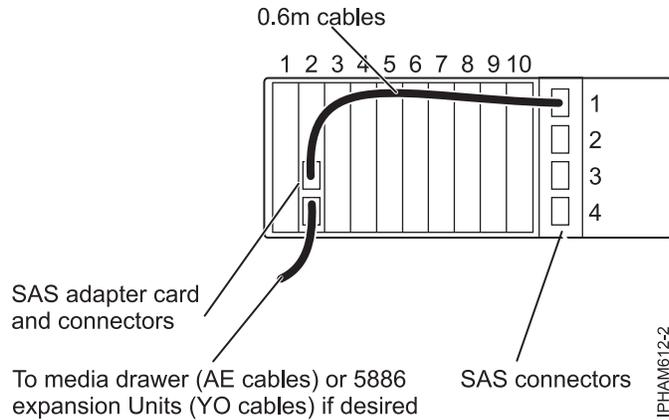

Figure 40. Physical cabling example: One hard disk drive partition with 18 disks, a single SAS adapter, hard disk drive partitions switch position 1
<p>1 hard disk drive partition with 18 disks and a single SAS adapter.</p>	<p>For related physical cabling, see Figure 40 on page 71.</p> <p>Operating system: AIX or Linux</p> <p>SAS adapter card: One (FC 5901) - PCIe Dual - x4 SAS Adapter</p> <p>Hard disk drive partitions switch: position 1</p> <p>Cables: One (FC 3688) - SAS Cable (AT) 0.6 Meter.</p>